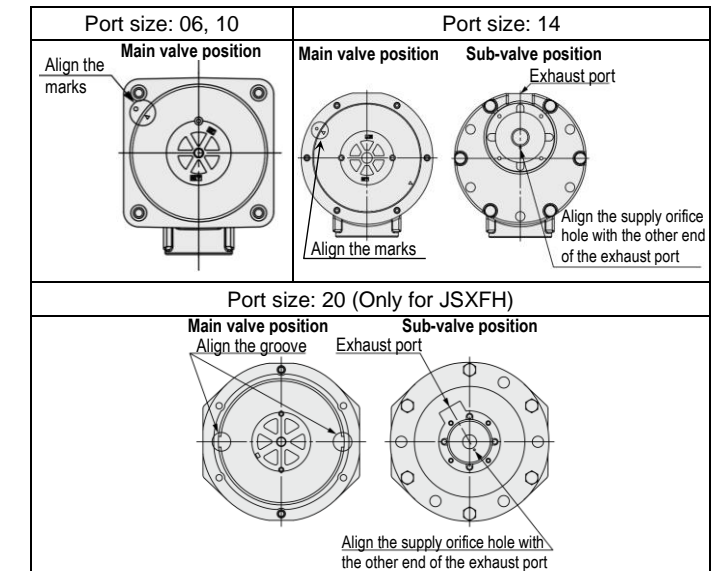

Figure 10.
- Assemble the main valve (sub-valve) to the body, with reference to mounting orientation shown in Figure 10. Incorrect assembly can lead to product malfunction.